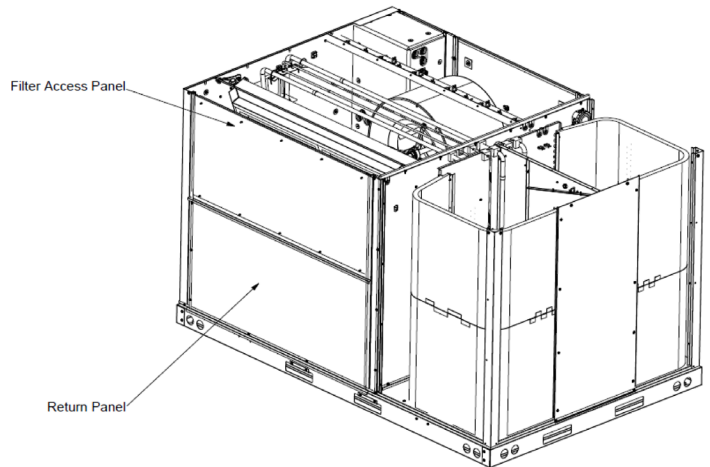

FIGURE 11 - REMOVE PANELS
- Take filter access panel off of unit. Keep for installation back on to unit when economizer installation is complete (see Figure 11).
- Remove return panel from return air section of unit (see Figure 11). This panel can be discarded. Keep removed screws for use in later step.